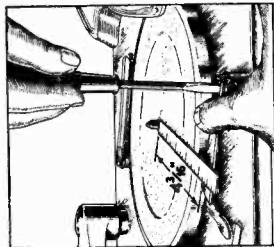

Figure 3—Adjusting elevator pad
- After the instrument has completed one record changing operation, a ten inch record should extend about three-quarters way over each elevator pad. If this condition does not exist, an adjustment can be made by means of the screws that hold the pads in position. A pair of pliers heavily padded with cloth or other soft material should be used to hold the elevator shafts while loosening and tightening the screws. The distance from the closest part of either pad to the edge of the spindle is approximately $4\frac{3}{16}$ ". Figure 3 shows the method of making this adjustment.